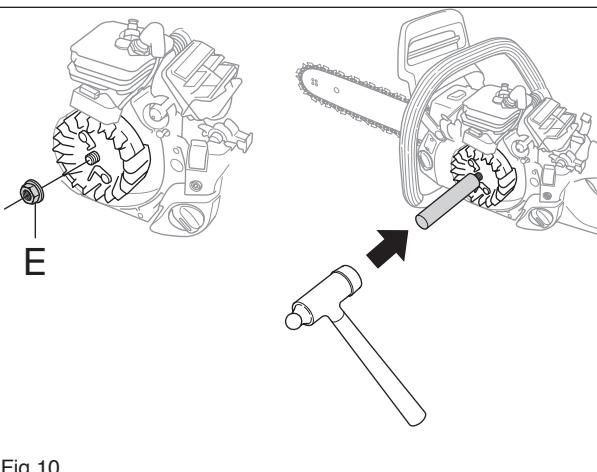

Fig 10
Loosen the flywheel nut (E) using a suitable socket and remove it.(see figure 10)
Knock on the punch using a metal mallet until the flywheel releases from the shaft. Remove the punch and the flywheel. (see figure 10)